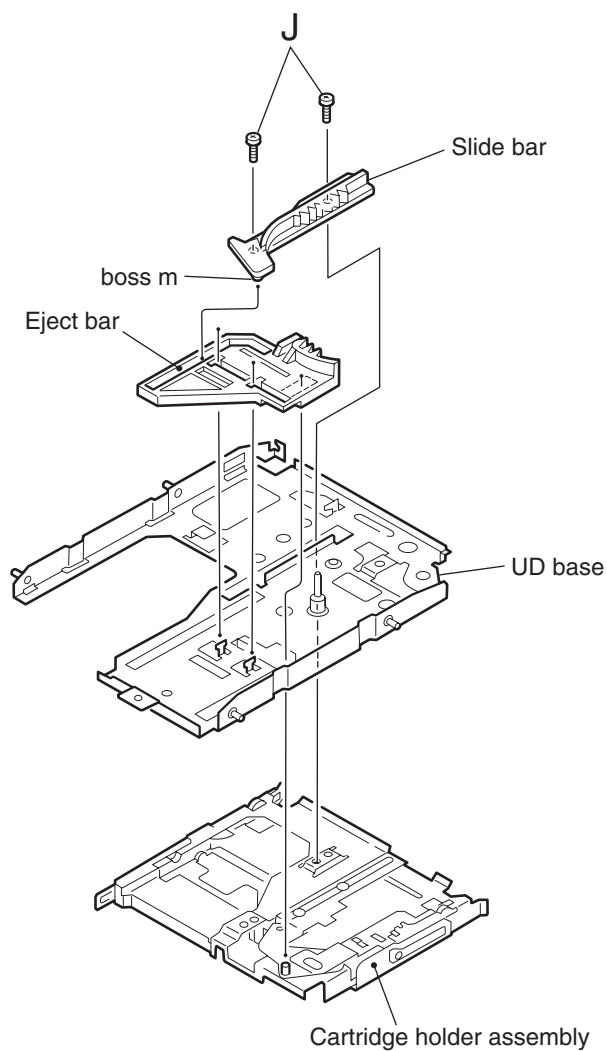

Fig.15
1. Reattach the eject bar to the UD base (see Fig.15, 21).
2. Reattach the slide bar to the loading mechanism chassis while fitting the boss **m** to the groove of the eject bar (see Fig.15).